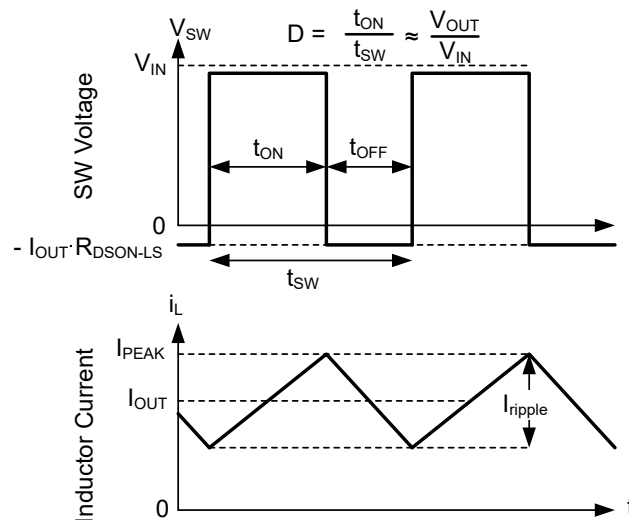

図 7-16. SW Voltage and Inductor Current Waveforms in Continuous Conduction Mode (CCM)
The following operating description of the device refers to セクション 7.2 and to the waveforms in 図 7-16. In CCM, the device supplies a regulated output voltage by turning on the internal high-side (HS) and low-side (LS) switches with varying duty cycle (D). During the HS switch on time, the SW pin voltage, V_{SW} , swings up to approximately V_{IN} , and the inductor current, i_L , increases with a linear slope. The HS switch is turned off by the control logic. During the HS switch off time, t_{OFF} , the LS switch is turned on. Inductor current discharges through the LS switch, which forces the V_{SW} to swing below ground by the voltage drop across the LS switch. The converter loop adjusts the duty cycle to maintain a constant output voltage. D is defined by the on time of the HS switch over the switching period: